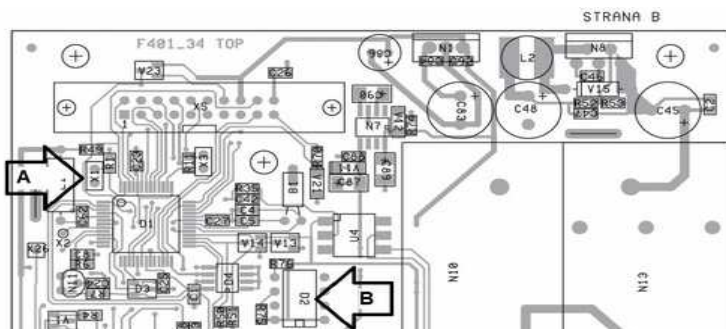

Fig. 6.
The electronic unit of the induction flow meter may be configured for any sensor. The sensors are defined by the DN, CF1, CF2 parameters. The DN parameter determines the sensor dimension; CF1 determines the correcting amplification constant; CF2 determines the sensor offset. The function is accessible under the SENSOR SETUP item after inserting the X1 jumper. Fig. 6 (A).
The flow meter setting and the counter counts are stored in the EPROM backup memory. Fig. 6 (B).